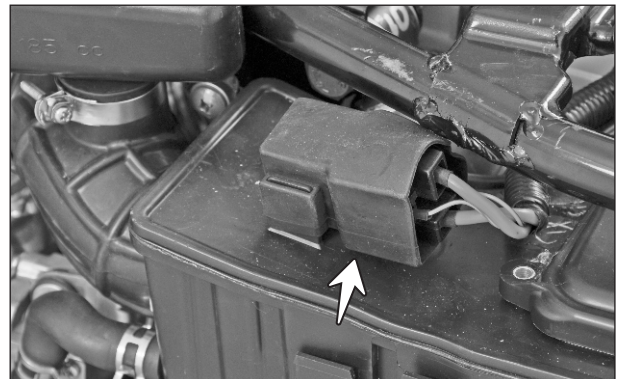

Fig. 5.43
- Relay self starter is located on the left side of the vehicle on top of the air cleaner assembly. (Fig. 5.43)